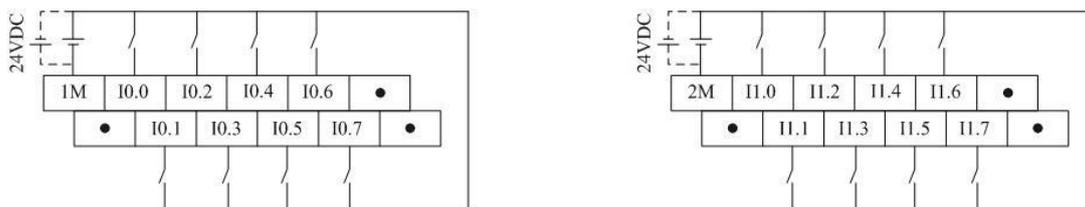

Figure 5-2 Upper Terminal Definition and Wiring Diagram Lower Terminal Definition and Wiring Diagram
- 1M and 2M terminals of input channel (DI) are common terminal for peripheral DI, users can choose to connect them to positive terminal or negative terminal of 24VDC power to fit sink/source type DI.
- Connecting external field power supply to two DI channel of same common terminal will cause close of channel (indicating as right diagram in Figure 5-2), whereas no damage to module will be caused.